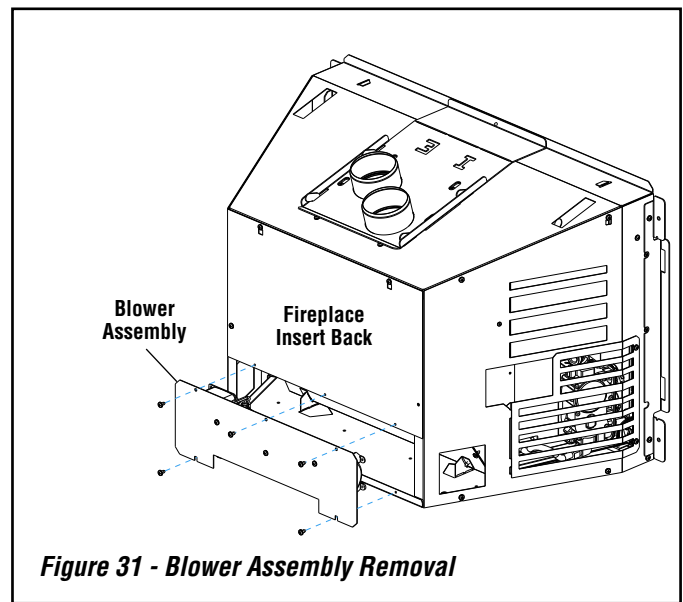

Figure 31 - Blower Assembly Removal
2. Remove five phillips screws holding fan assembly in place and carefully move assembly out of the way, exposing appliance wiring (see **Figure 31**).